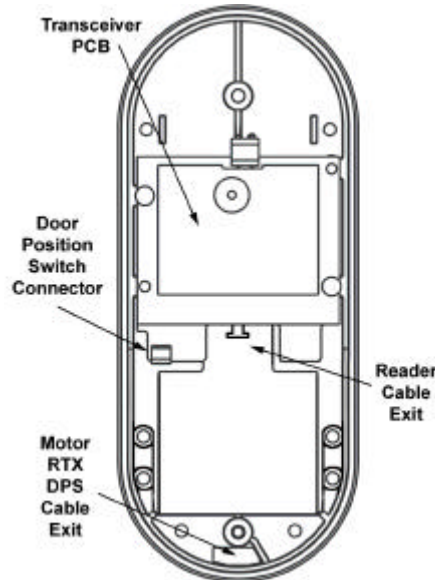

Figure 2-18 – Connecting the Door Position Switch Wires
- 2.11.1 Cut and strip the Door Position Switch wires so that they can be neatly dressed and connected to the Door Position Connector on the Transceiver PCB (Figure 2-18).
- 2.11.2 Connect the two Door Position Switch wires to the Door Position Connector on the Transceiver PCB (Figure 2-18). This connection is not polarized so either wire can go to either terminal.